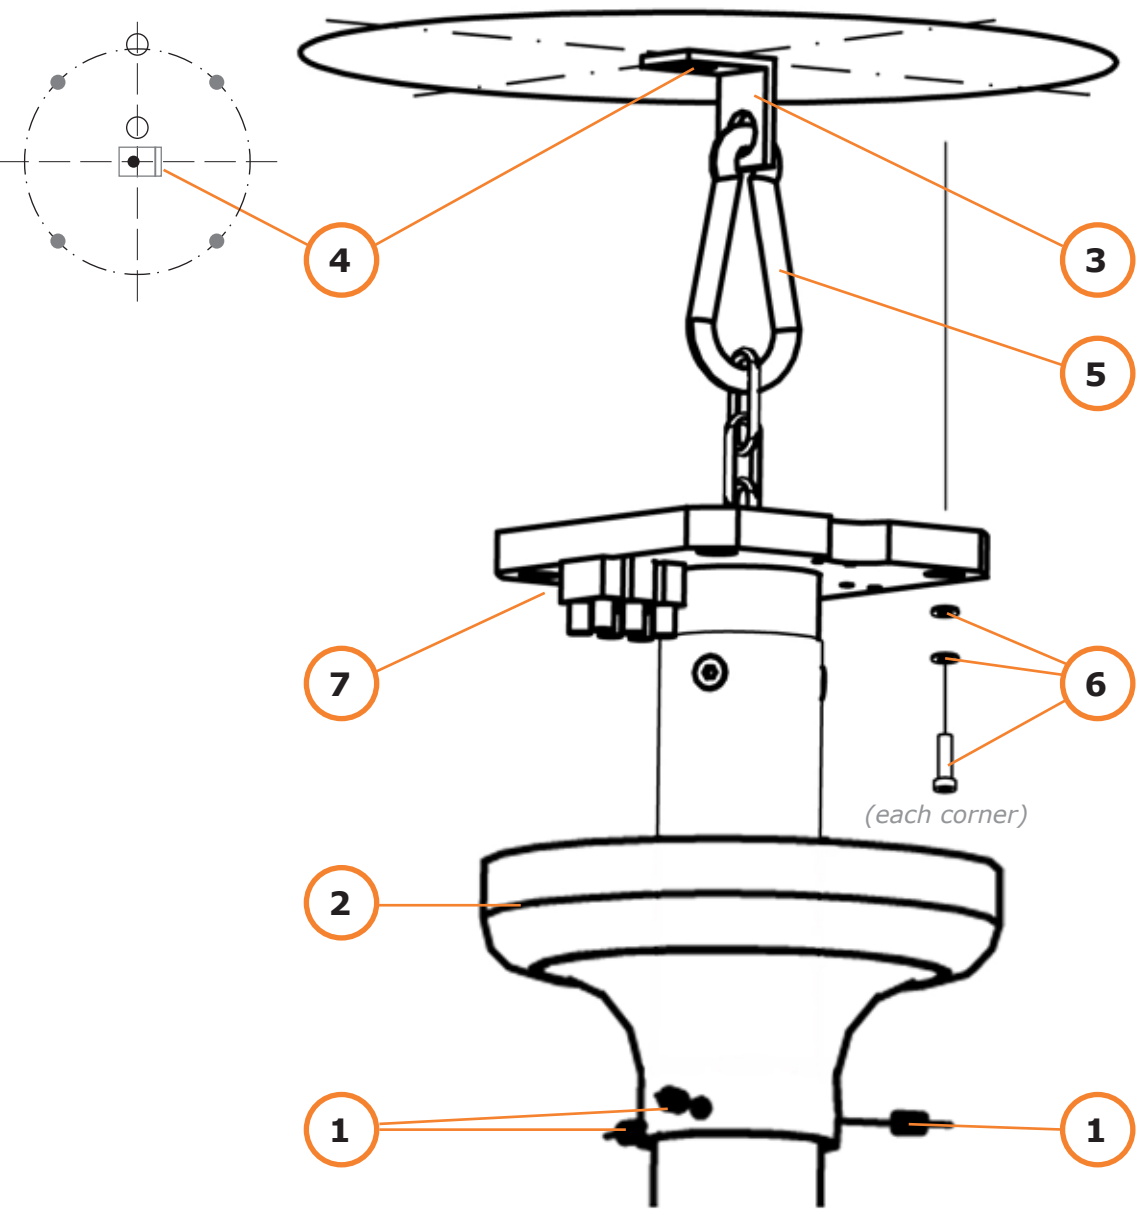
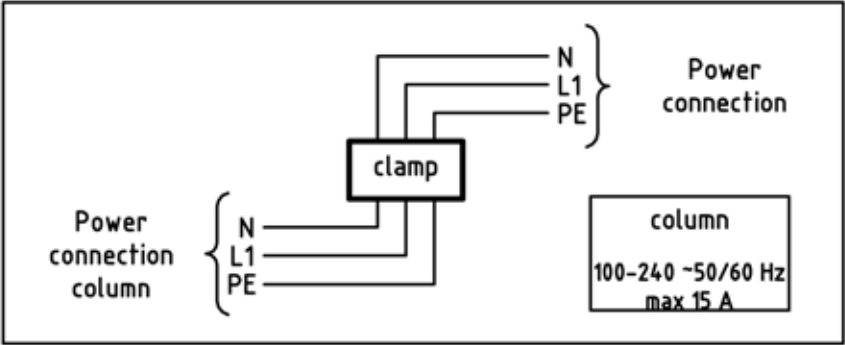

Fig. 11
Fig. 12
5.3.1 Loosen the three threaded pins (1/Fig. 11) of the canopy flange cover (2/Fig. 11).
5.3.3 Fix the safety anchor (3/Fig. 11) to the mounting plate (4/Fig. 11) using a M8 screw and a washer.
Secure the chain with the attached safety latch (5/Fig. 11) to prevent it from falling into the column tube.
5.3.4 Lift the column and engage the safety latch (5/Fig. 11) into the safety anchor (3/Fig. 11).
5.3.5 Once the safety latch is engaged into the safety anchor, push up the ceiling column slightly and rotate the safety latch (5/Fig. 11). Make sure the small diameter of the safety latch is positioned in the safety anchor according to Fig. 11.
5.3.6 Fix the ceiling column to the mounting plate using the four M10x35 screws, lock washers, and washers (6/Fig. 11) provided, apply Loctite® 243 to the screws and tighten with 22 Nm torque.
5.3.7 Ground the ceiling column with the screw marked with a grounding symbol (7/Fig. 11). Complete the electrical connection to the clamp according to Fig. 12, when electricity is needed.
5.3.9 Once the ceiling column is installed, carefully slide the canopy upward until it rests against the mounting plate and secure it with the set screws (1/Fig. 11).